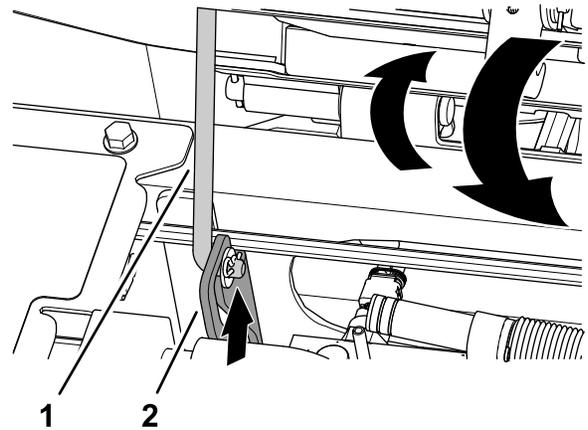

Figure 64
1. Rotate the seat slightly, and lift the prop rod out of the dent of the seat support slot (Figure 64).